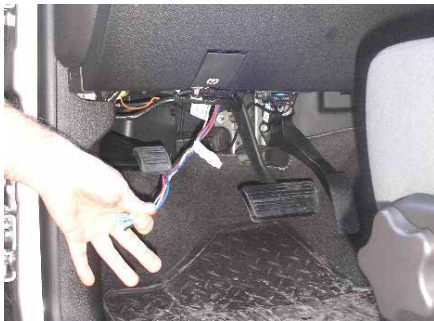

Figure 2
2. Pull the trairling harness wire down (Fig. 2)